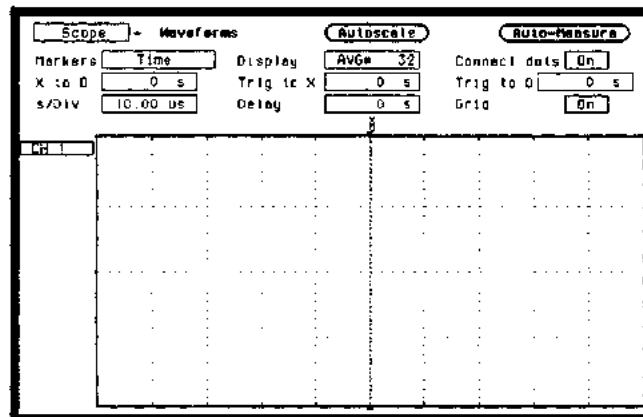

Figure 3-52. Waveforms Display Menu
- Press DISPLAY and set the Markers to Time, Display to AVG# 32, Connect dots On, and Grid On as in figure 3-52.